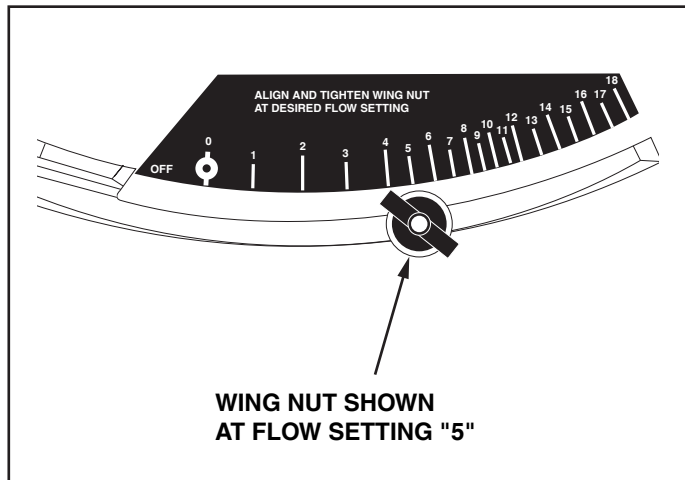

FIGURE 24
4. Loosen the plastic wing nut and move it to the desired setting. Retighten the nut. See figure 24.